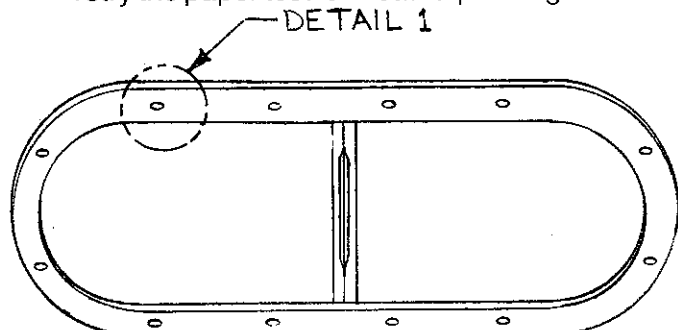

Figure 11-7. Glass Adjustment Detail
1. Open the skylight and push the two snap-link latches back toward handle. (See figure 11-7).
2. Lift snap-link arms off the hinge pins and tap the handle pivot pins out; this enables you to remove the handle from the glass so you can adjust the two tension studs under the handle. (See figure 11-7).